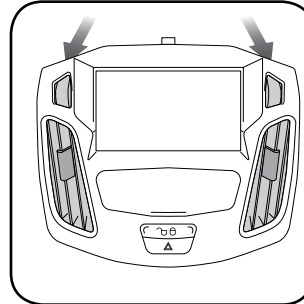

Fig. 2.3
3. Install the factory vents on the FOC1 kit. (Fig. 2.3)